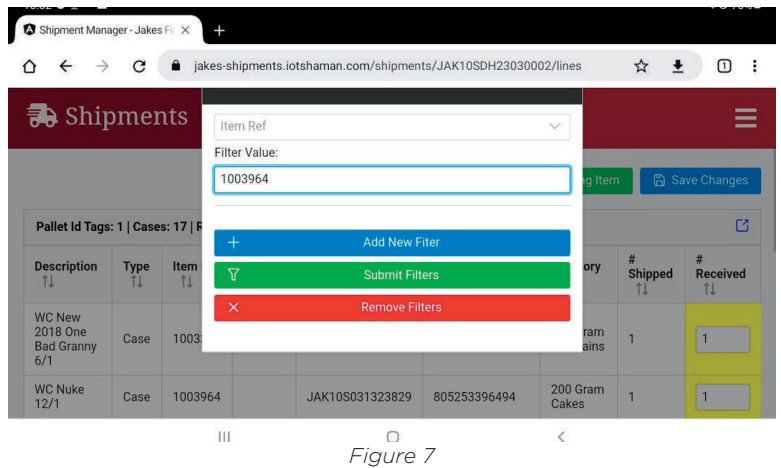

Figure 7
- d. Enter the PRODUCT ITEM NUMBER under FILTER VALUE (Figure 7)